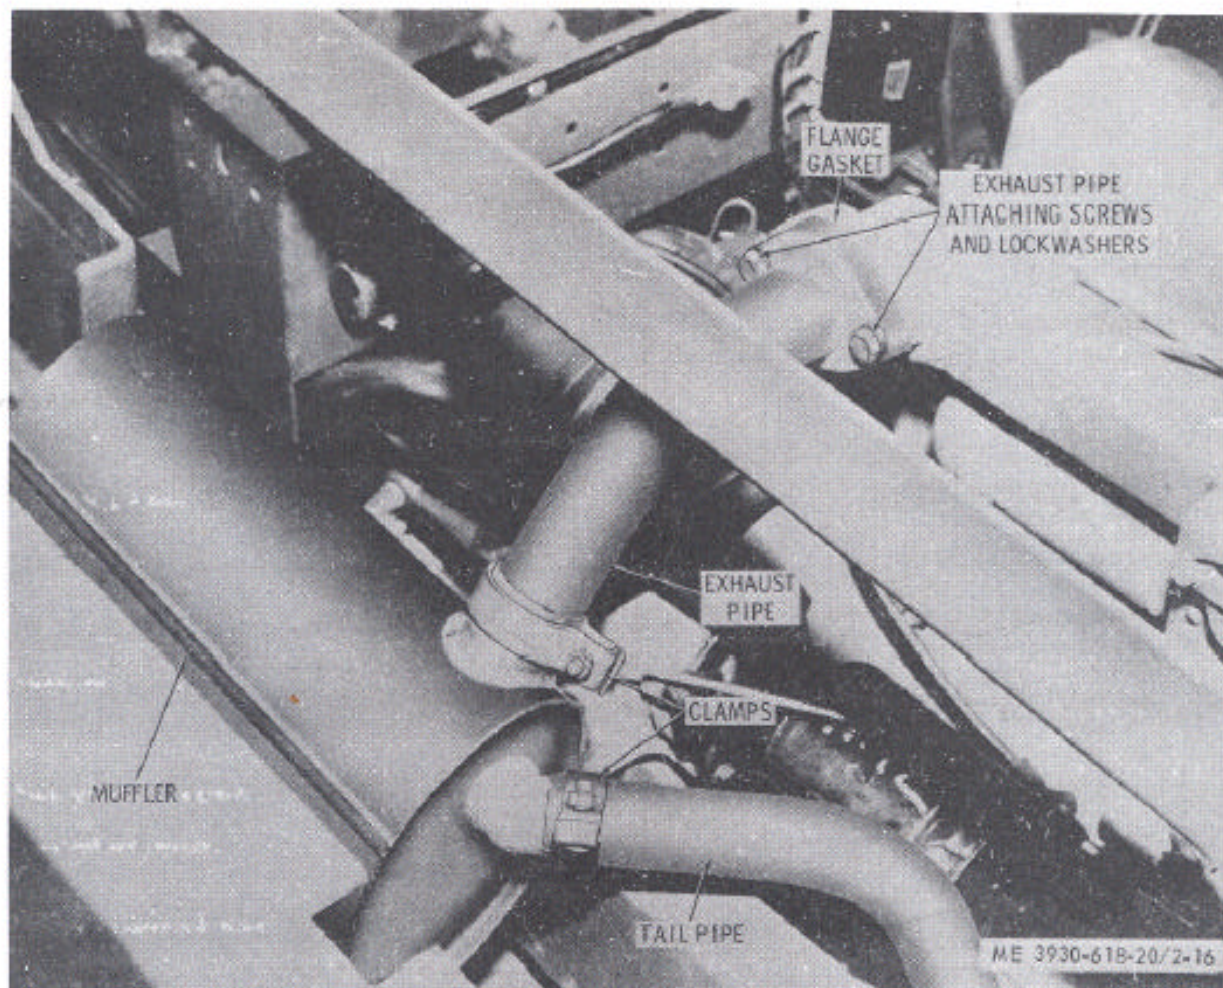

Figure 2-16. Muffler and pipes, installed view.
a. Removal. Refer to figure 2-16 and remove the muffler and pipes as follows:
(1) To remove the muffler, remove the exhaust pipe (2) below and loosen the clamp securing the tailpipe to the muffler. Lift out the muffler.
(2) To remove the exhaust pipe, remove the 2 screws and lockwashers attaching it to the engine exhaust manifold. Then loosen the clamp securing it to the muffler and remove the clamp and flange gasket.
(3) To remove the tailpipe, loosen the clamp securing it to the muffler and remove the rear clamp (not shown). Lift out the tailpipe and sleeve. (not shown).